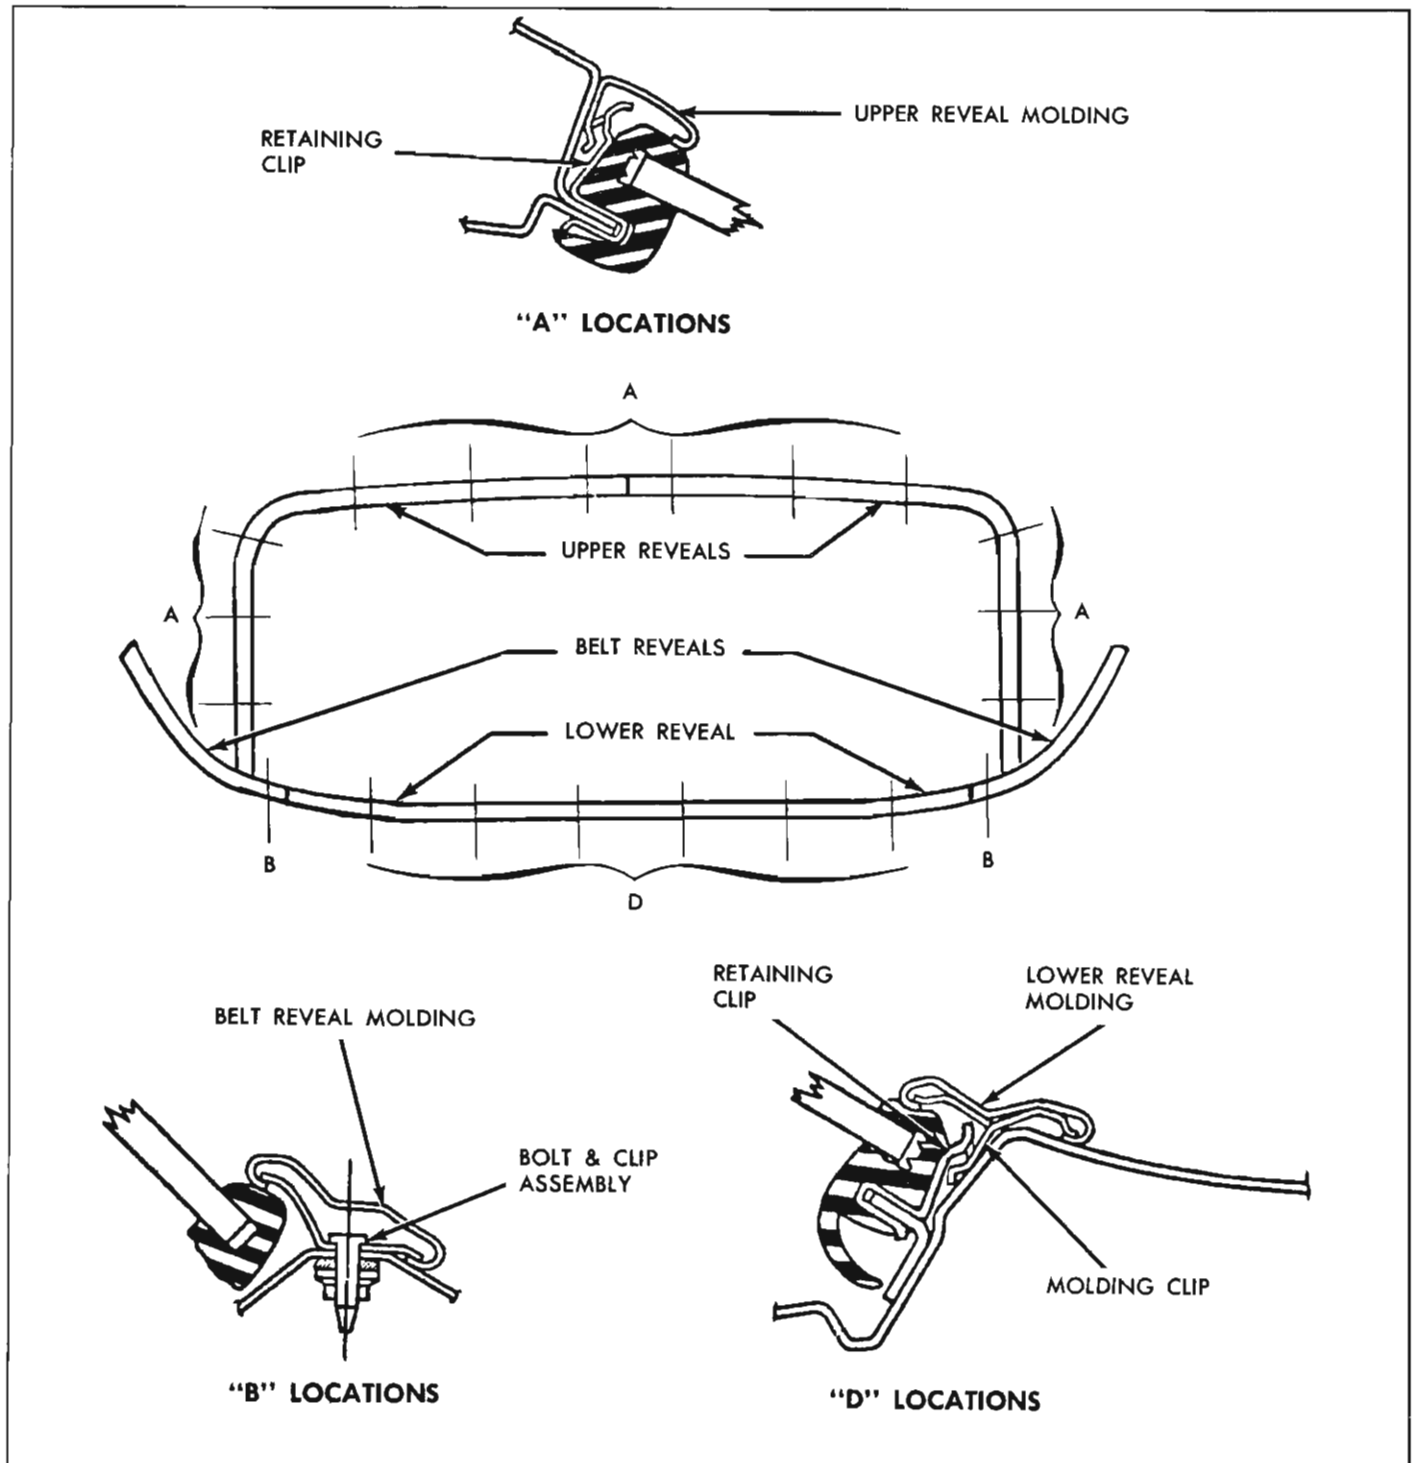

Fig. 31—Back Window Reveal Moldings—"47" Styles
**Lower Reveal Molding (Fig. 31)
### Upper Reveal Molding (Fig. 31) 1847 Style